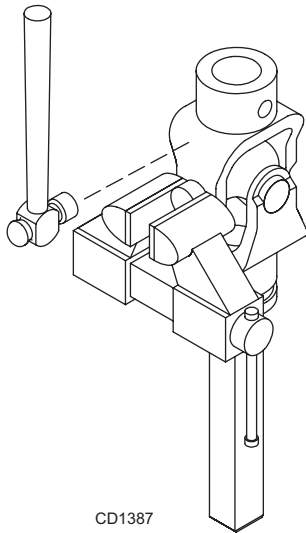

Figure 20. Remove Cups
3. Clamp cup in vise as shown in Figure 20 and tap on yoke to completely remove cup from yoke. Repeat Step 2 and Step 3 for opposite cup.